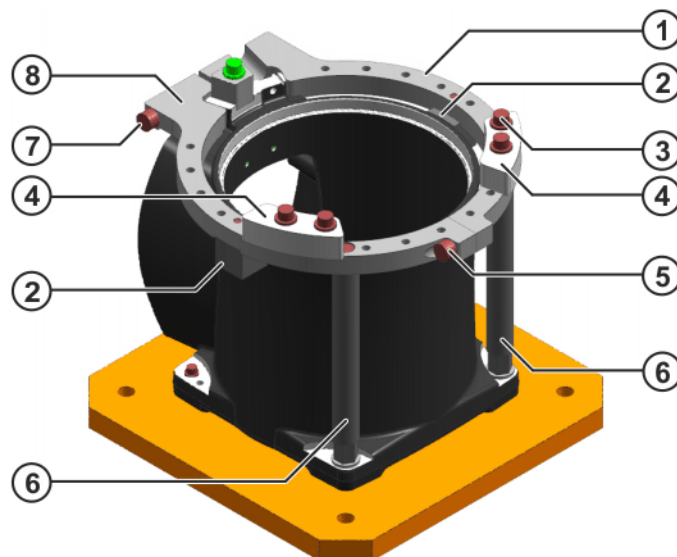

Fig. 10-1: Removing working range limitation A1
1. Unscrew 2 M8x35-10.9 Allen screws and 2 support sleeves from each of the supplementary stops and remove the supplementary stops (>>> Fig. 10-1).